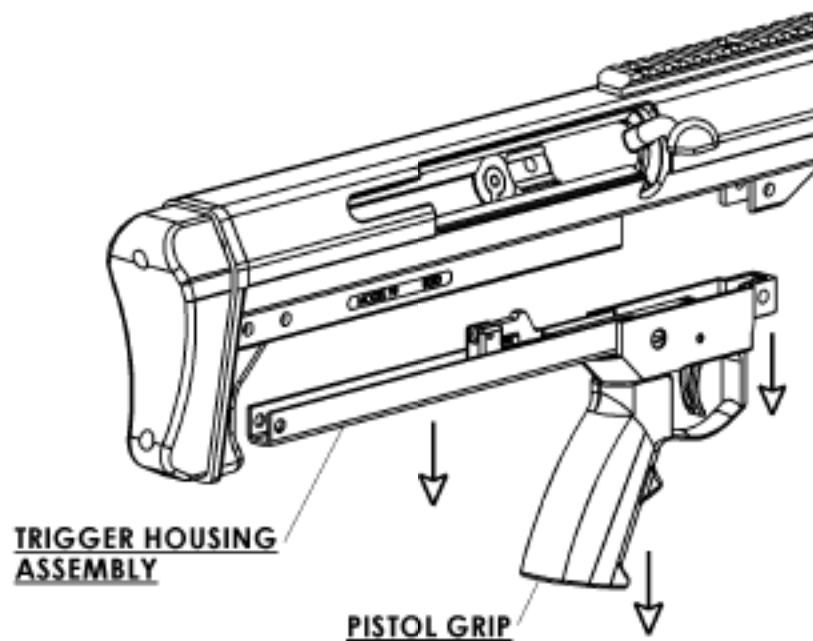

Figure 8.
3. Remove the trigger housing assembly by pulling the pistol grip downward out of the receiver. (Figure 8.)